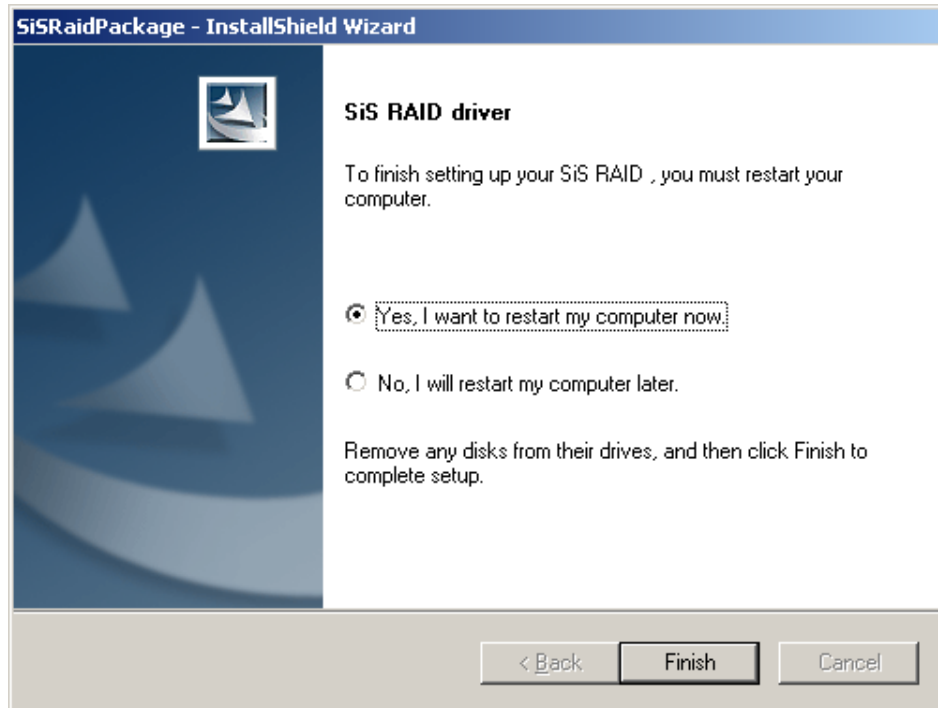

Figure 6-36: Restart the Computer
Step 14: After the driver installation process is complete, a confirmation screen appears (Figure 6-36).